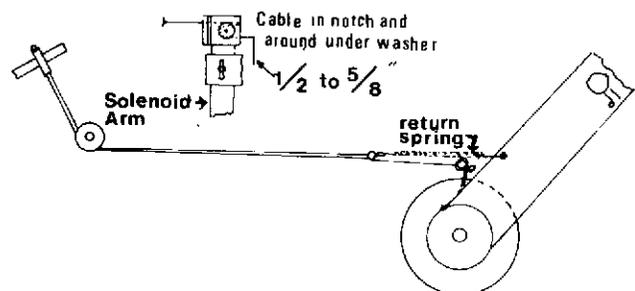

Figure 3-44. BRAKE CABLE ADJUSTMENT
13. Brake Cable Adjustment (S.C.) Fig. 3-44